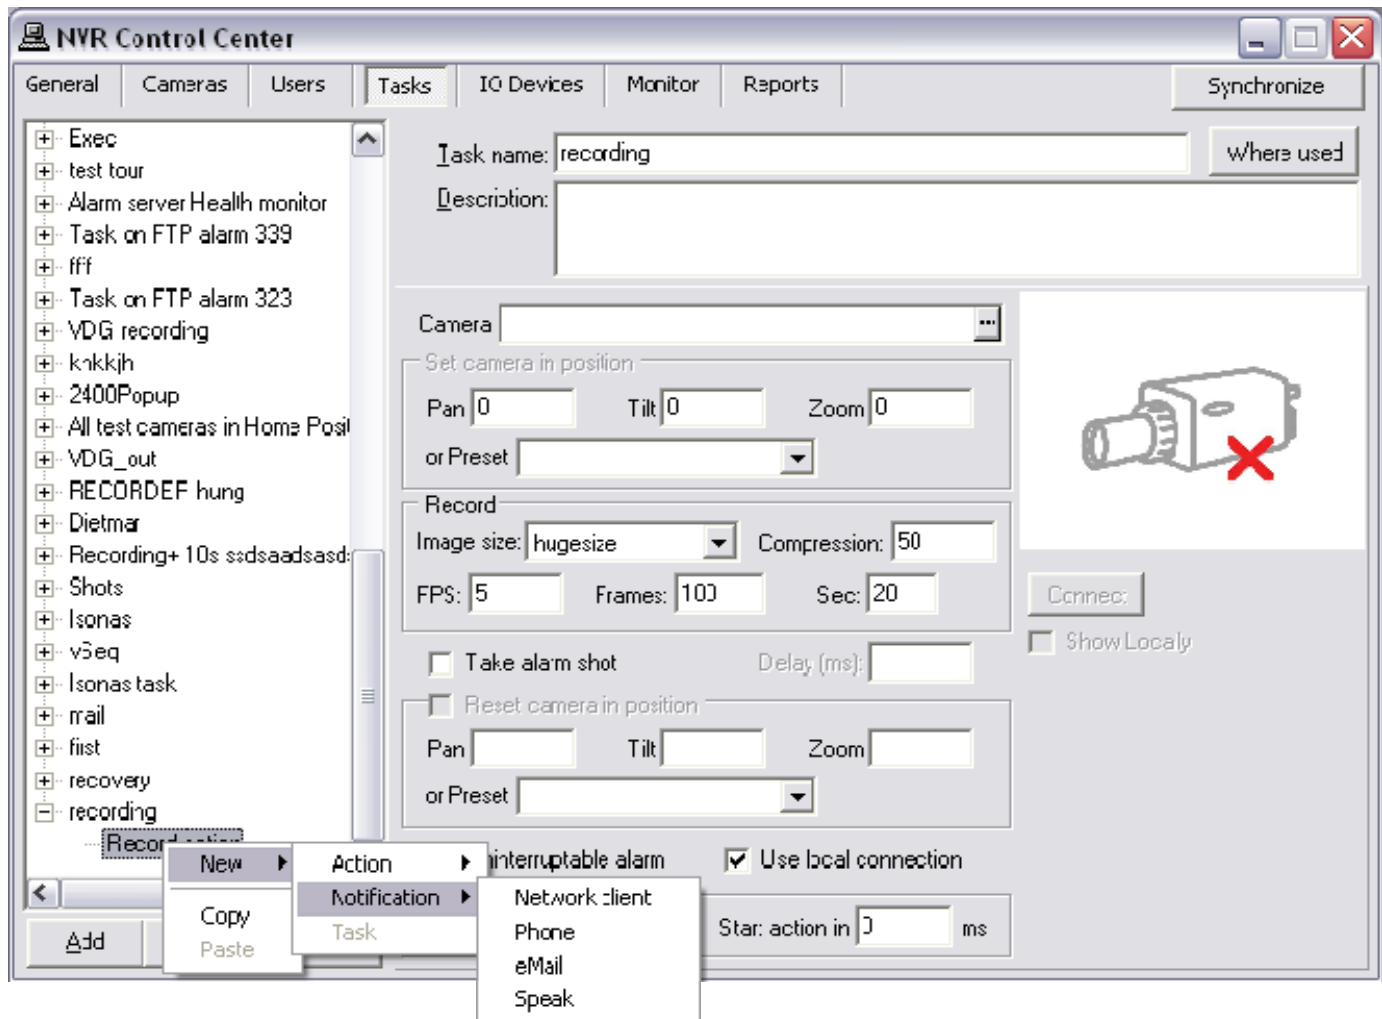

Fig 69. NVR Control Center — Tasks
1. In the **NVR Control Center — Tasks** select a task in the **Tasks** list, right-click and select **New — Notification** the notification's menu appears (Fig 69).